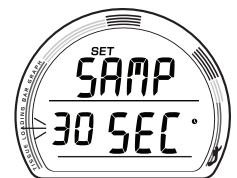

Fig. 46 - SET SAMPLING
**SET SAMPLING RATE**, information is to include (Fig. 46):